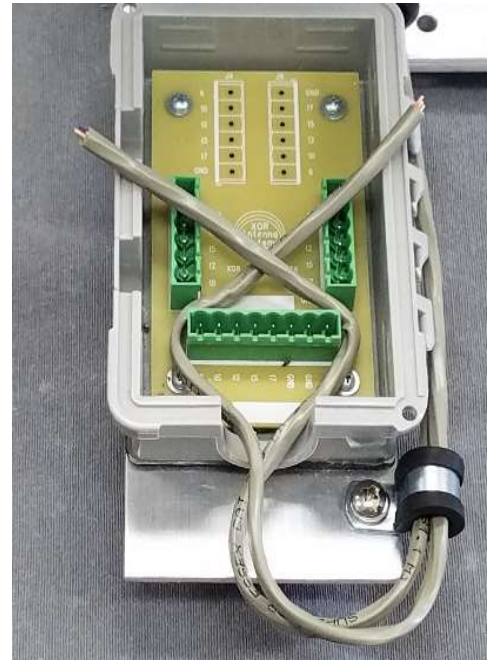

FIGURE 97
□ **STEP 9.8** Route both CAT3 cables A and B through the JBOX opening and around the 8-position connector header, as shown in **FIG. 97**. Extend each cable length at least to that shown in **FIG. 97**, before trimming the A and B cables. **Cable ends A and B may be already prepared at factory.** The large cable loop outside JBOX opening, allows flexibility in adjusting the final desired cable lengths to headers.